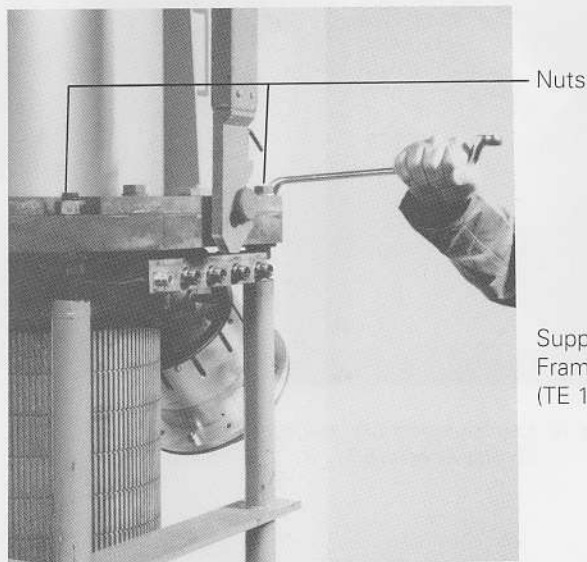

Fig. 15. Removing the Support Frame Securing Nuts
- (a) Remove the four nuts (Fig. 15) from within the cut-outs of the klystron support flange.